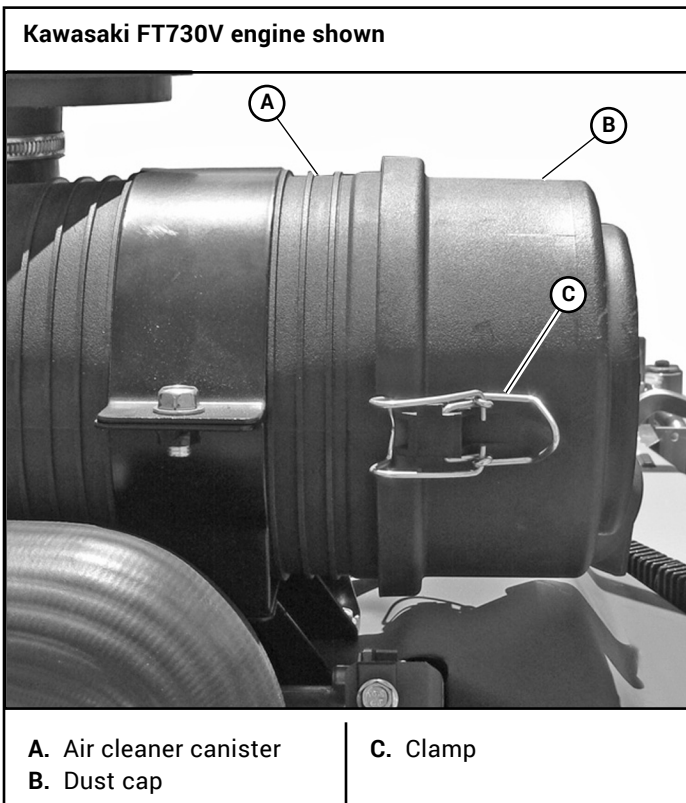

Figure 4-14
3. **Kawasaki FX730V engines** – Install the dust cap. Make sure it seals all the way around the air cleaner canister, then tighten the clamps. Figure 4-14
Kawasaki FX691V engines – Install the top of the canister housing. Make sure it seals all the way around the lower part of the housing, then tighten the clamps. Figure 4-14